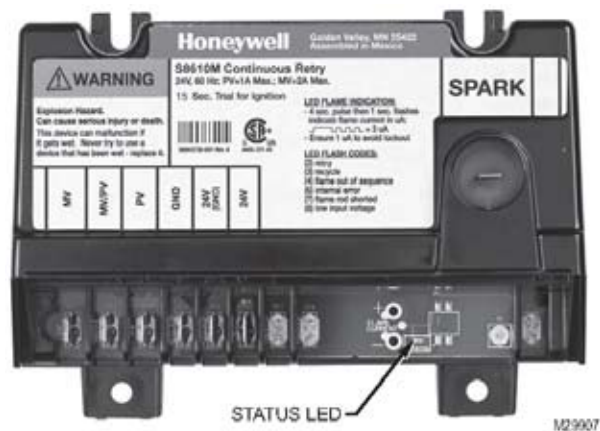

Figure 21A: Location of LED
A. See Figure 20 for electronic ignition (EI). Electronic Ignition Modules with LED indicators. Table 5 cross-references the ignition module terminal designations to the ignition terminal numbers in the wiring ladder diagrams. Table 6 provides green LED status codes and recommended service action where applicable.. See Figure 21A for Location of LED. See Figure 28 for Troubleshooting Guide.